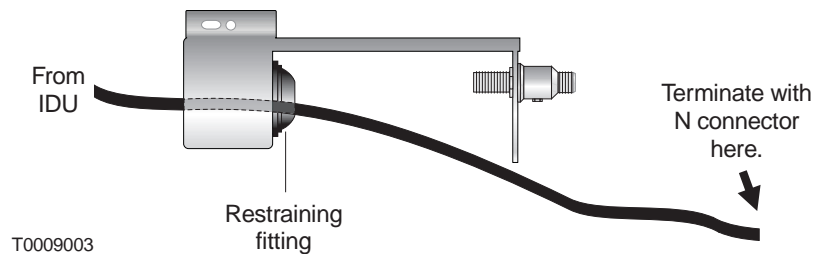

Figure 4-7 Routing the IFL cable
2. Route the cable from the IDU chassis location through the base of the lightning arrester and the restraining fitting, as shown in figure 4-7.